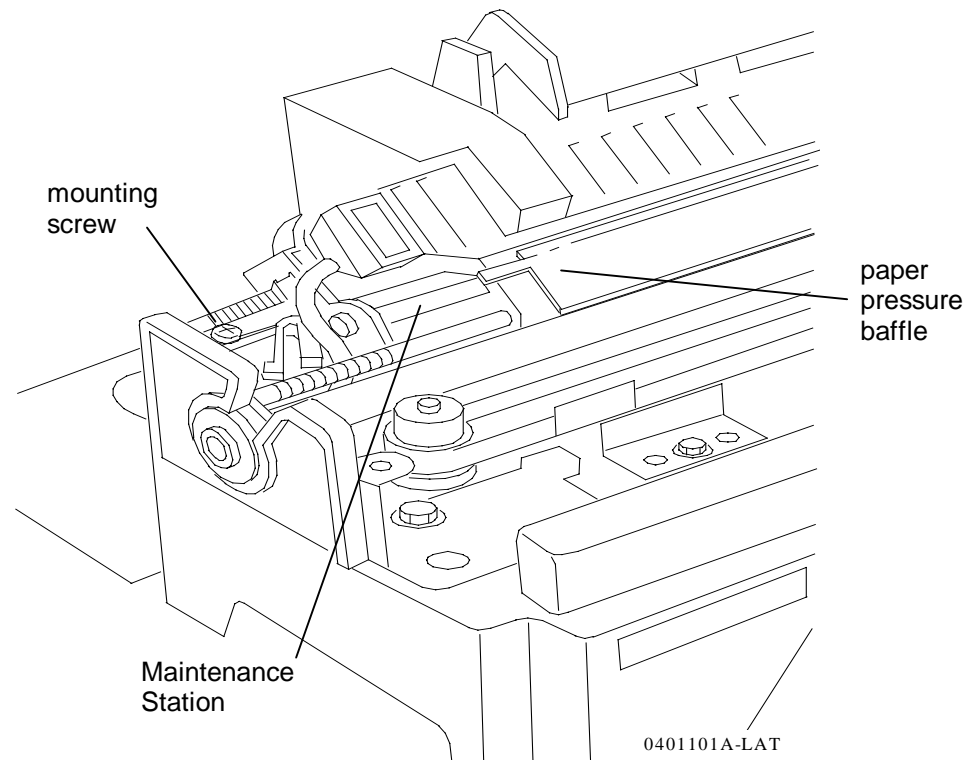

Figure 1.
5. Remove the mounting screw (Figure 1).